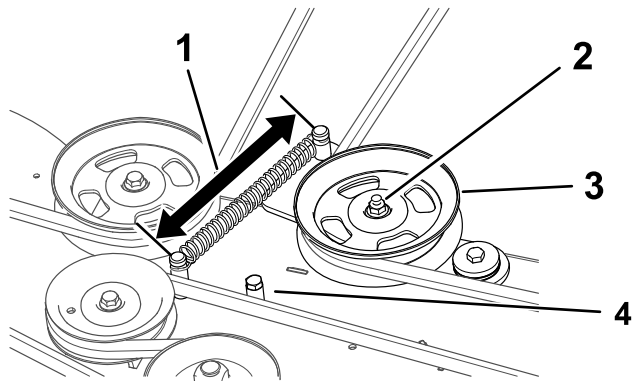

Figure 55
If the length of the spring is less than 15.2 cm (6 inches) or if the idler pulley arm contacts the idler stop shown in Figure 55, adjust the idler pulley arm.
4. Loosen the nut on the idler pulley (Figure 55).
6. Tighten the nut (Figure 55).